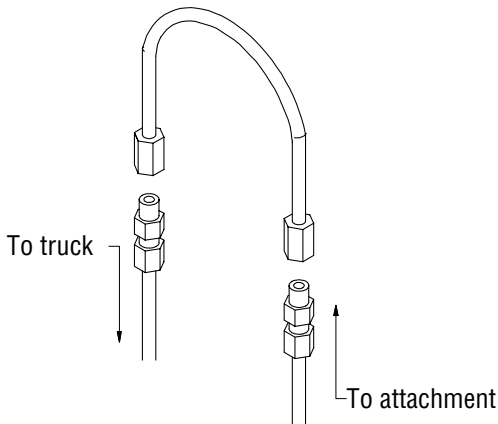

Figure 3-2, Jumper Line
2. Purging can be accomplished by installing a jumper line and operating each hydraulic function (clamp, rotate and side shift if equipped) in each direction for a minimum of 30 seconds. (Figure 3-2)